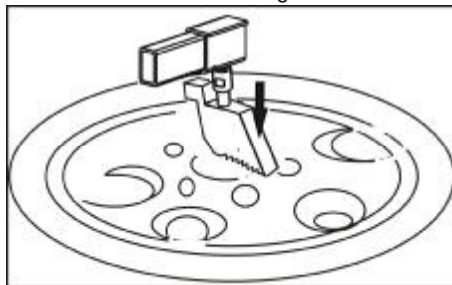

Fig.08
- I Take the bless block on tyre center, assemble it on fore swivel arm as in Fig.08.